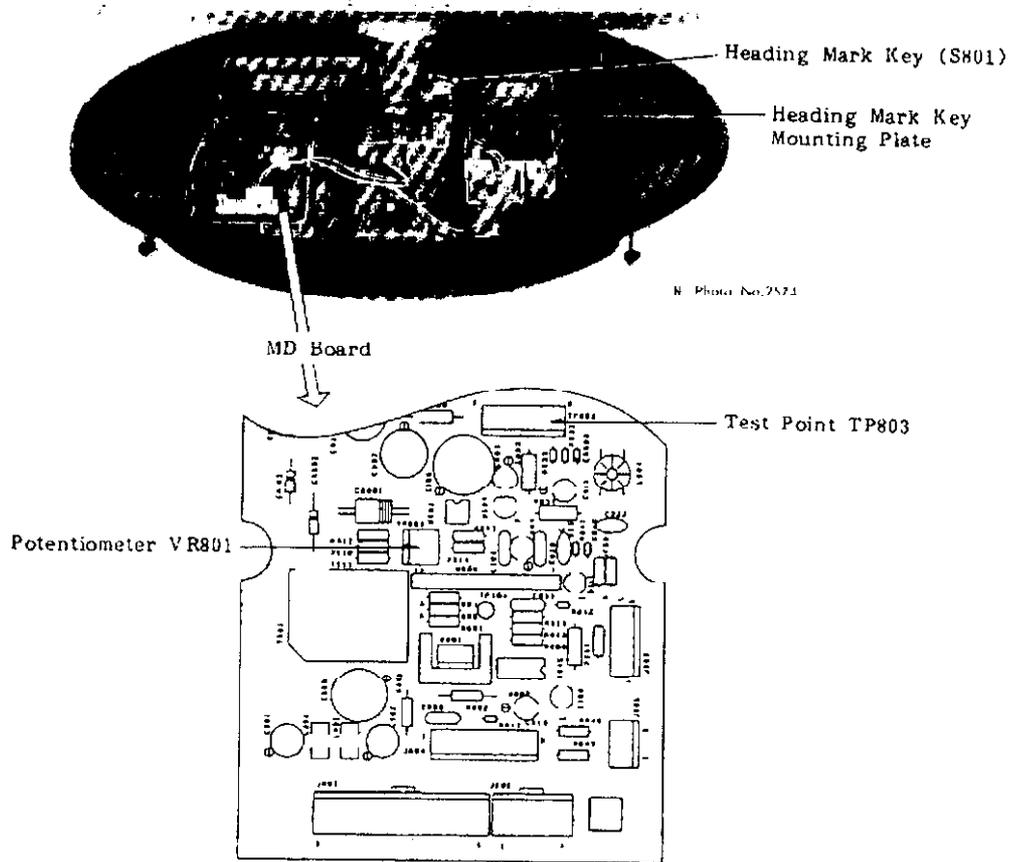

Fig.20 Scanner Unit
6. If the error is more than $\pm 5^\circ$, set S1 to "0" and then adjust the position of heading mark key S801 (Fig.20) located inside the Scanner Unit.
2. Connect a multimeter, set to 10VDC range, between #4 (+) and #6 (-) of test point TP803 on the MD board. See Fig.20.
3. Confirm that the multimeter shows $7.5V \pm 0.1V$. If not, adjust potentiometer VR801 (Fig.20) on the MD board.